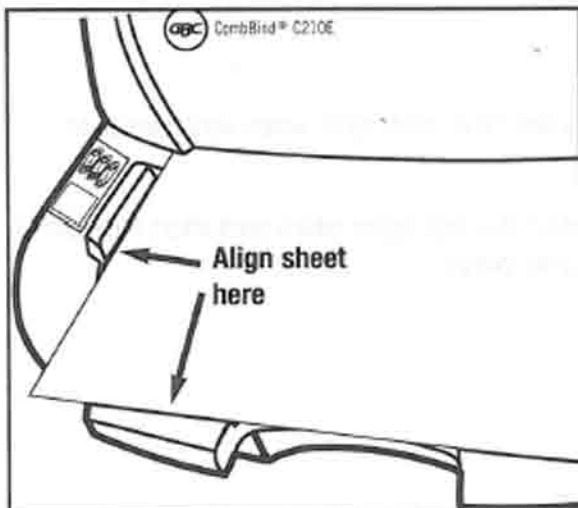

Figure 3
2. Align the document or cover so that it is flush with the edge guide to ensure an accurate punch. (see Figure 3)